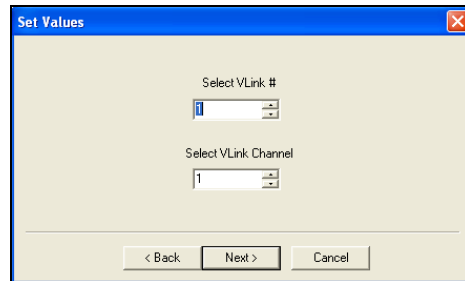

Figure 36: Setting Values
9. Select the appropriate VIP index number and channel for the VIP you are using. In this case, it is Index 1 and Channel 1. Then click the **Next** button. Refer to **Figure 36**.